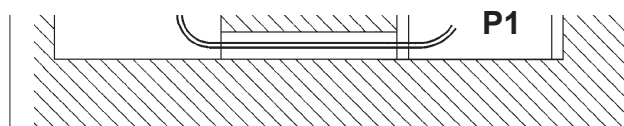
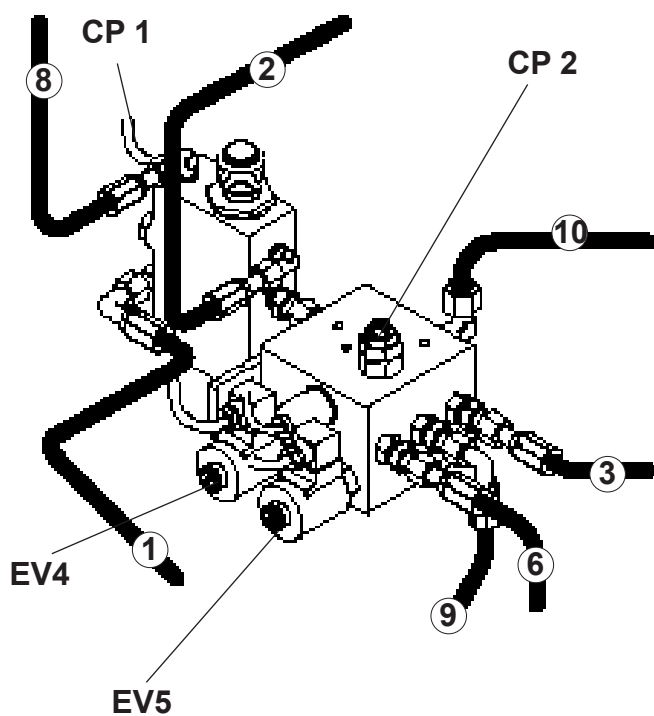
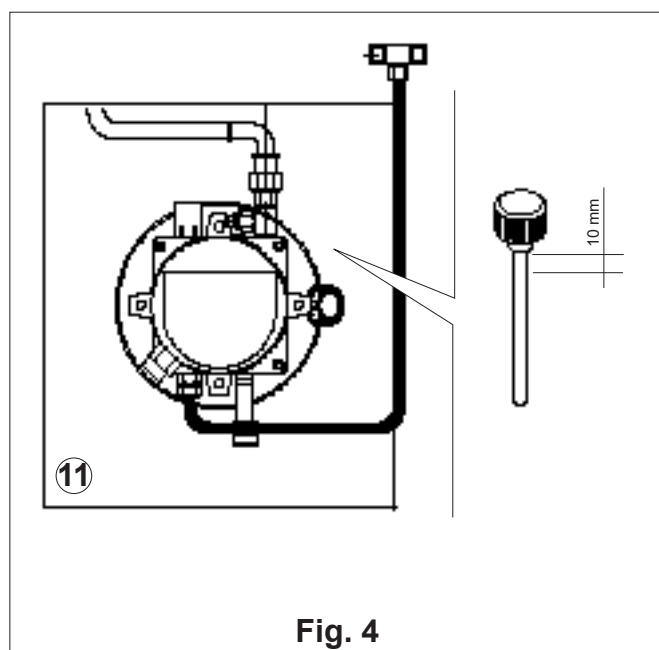

Fig. 2
Fig. 3
Fig. 4
- Remove the packaging, position the platform P1 (see lay-out) in the pit and the platform P2 on spacers so it is possible to install the hydraulic pipes in the floor channels (Fig.2).
- Connect the pipe (8) to the valve and to the cylinder (A).
- Connect the drain pipes (4 and 5) to the control unit (11) using the pipe (7) (Fig.4).
- Fill the tank (12) with ESSO NUTO H32 oil or equivalent (Qt.).
- Connect the electrical cables from the control unit to the solenoid valves EV4-EV5 and pressure switches CP1-CP2 (Fig. 3).